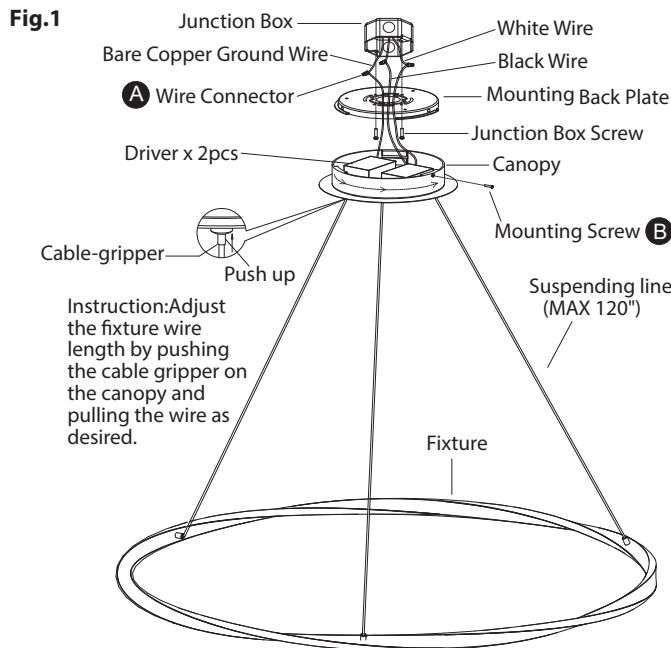

Fig.2 Wiring
CONNECTING THE WIRES (Fig. 2)
6. Connect the driver's input wires to junction box wires as shown (Fig. 2). Make sure that all wire connectors (A) are secure. If your outlet box has a green or bare copper ground wire, connect the driver's ground wire to it. Otherwise, connect the fixture's ground wire directly to the back plate using the green screw provided. After wires are connected, tuck them carefully inside the junction box.